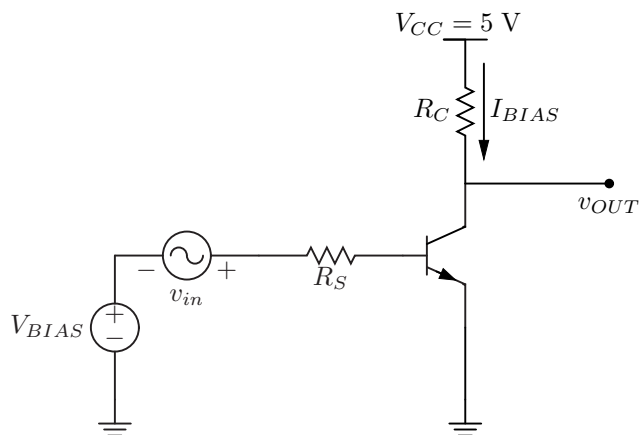

Figure 1: Common emitter amplifier test setup
1. Construct the common emitter amplifier as shown in Figure 1. Use a $R_C = 10\text{ k}\Omega$ and $R_S = 51\text{ }\Omega$.